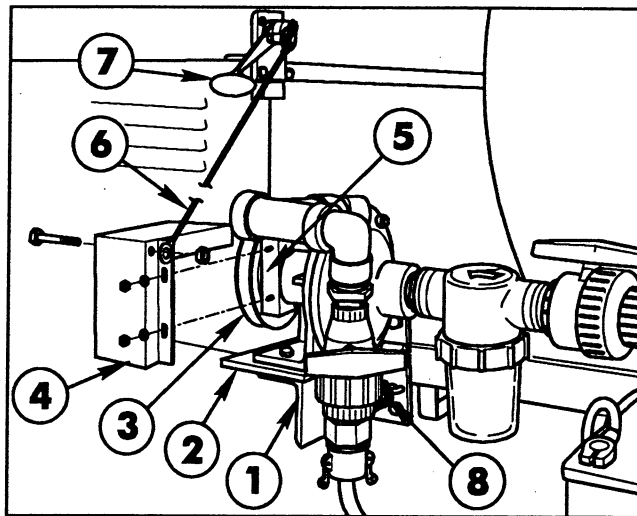

FIG. 6
5. Assemble the Centrifugal Pump and the Spring Mounting Angle to the Pump Pivot Plate, using two (2) 3/8" x 1-1/2" cap screws, flat washers, and lock nuts as shown in FIG 6.
6. Using a straight edge as a guide, position the Pump Pulley so that it is in alignment with the Engine's Drive Pulley. When alignment is correct, tighten the two (2) set screws in the Pump Pulley's hub.
8. Loosely mount the Pump Belt Cover to the Pump hub with the Pump Cover Clamp and the two (2) 5/16" flat washers, lock washers, and hex nuts. See FIG 6.